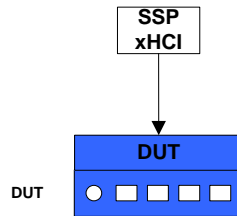

Figure 6-22: Compound Device Only Topology
- Configure the Device Under Test as shown in Figure 6-22 and attach it to an
- Attach the configuration shown in Figure 6-22 to an available SSP xHCI port.